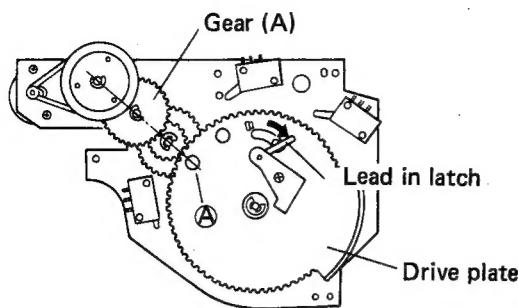

Fig. 1-13 Mounting the mechanism base
1. After turning hole A in the drive plate around to the position aligned with gear (A) as shown in Fig. 1-13, open the lead in latch in the direction of the arrow, and mount the mechanism base onto the tonearm base.